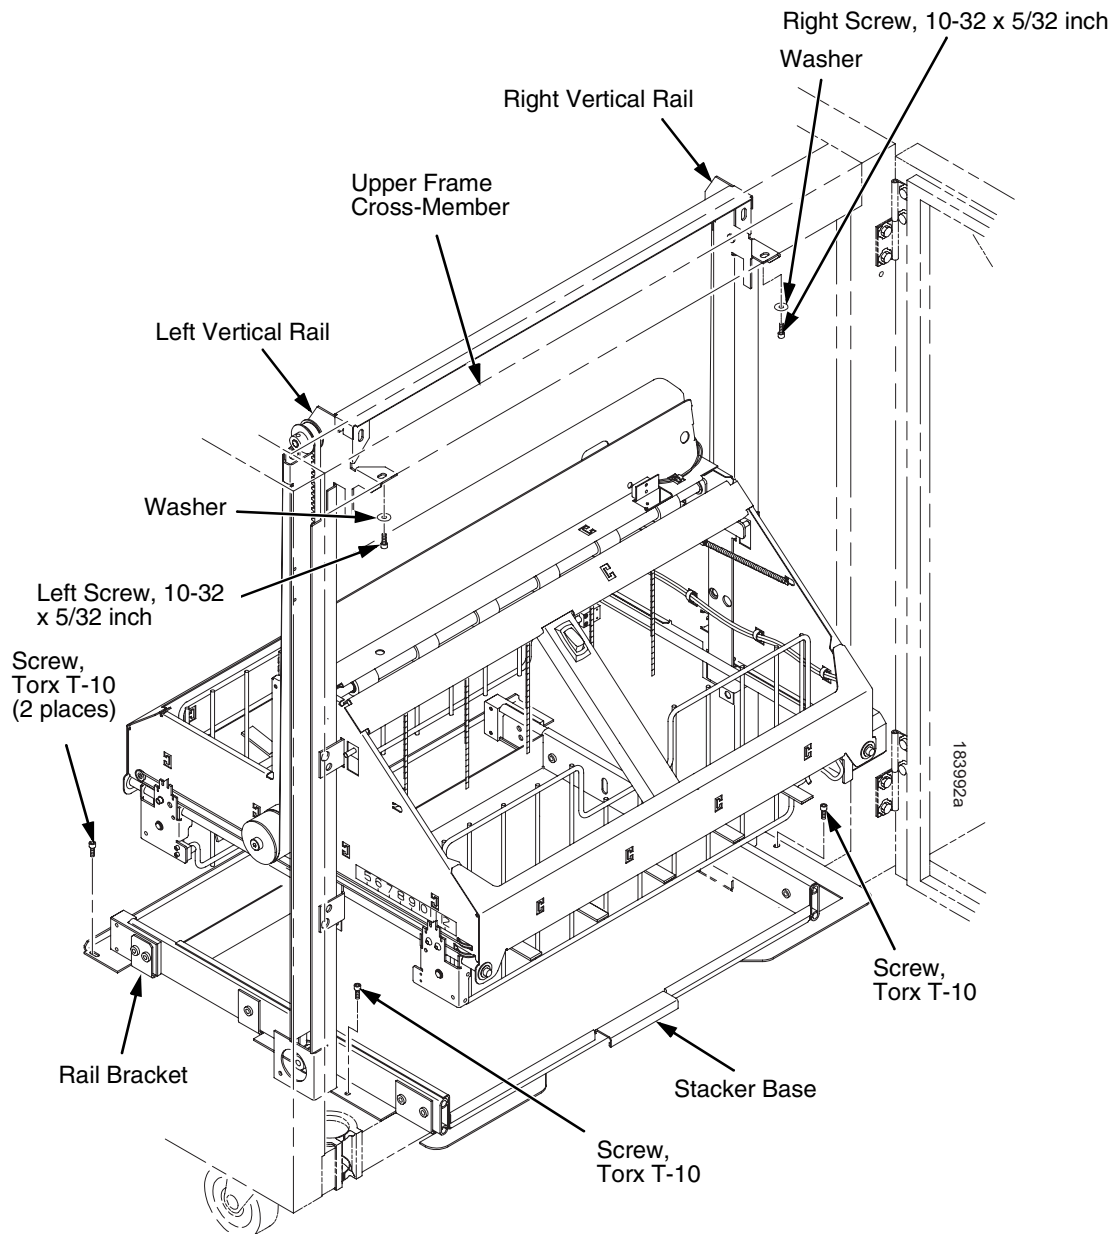

Figure 85. Stacker Fasteners
16. Align the holes in the vertical rail brackets with the holes in the upper frame cross-member. (Figure 84c and Figure 85.)
(Figure 84c and Figure 85)
18. Install finger tight the 10-32 x 5/32 inch buttonhead screw and washer securing the left vertical rail to the upper frame cross-member. (Do not install the right hand screw yet.) (Figure 85.)
19. Install and tighten the two Torx T-10 screws securing the stacker base to the cabinet floor. (Figure 85.)
20. Install and tighten the two Torx T-10 screws that secure the rail bracket to the cabinet floor. (Figure 85.)
27. Install finger tight the 10-32 x 5/32 inch buttonhead screw and washer securing the right vertical rail to the upper frame cross-member. (Figure 85.)